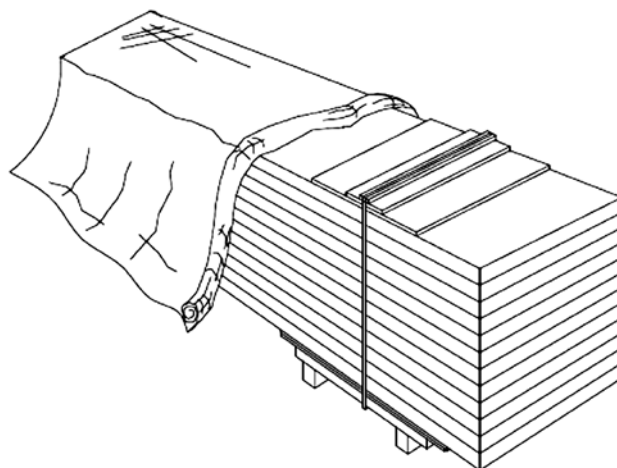

Fig. 13. Correct protection of panels with textile cover.
- Provide panels intended for open-air-storage with adequate protection against rainwater, snow, wind and contamination. Use canvas covers to provide adequate protection – see fig.13 (it is forbidden to use plastic film for protection purposes). The canvas covers ensure adequate ventilation and prompt evaporation of accumulated moisture. Absolutely avoid water collection between the panels, as in case of prolonged storage without adequate ventilation, this may damage them.